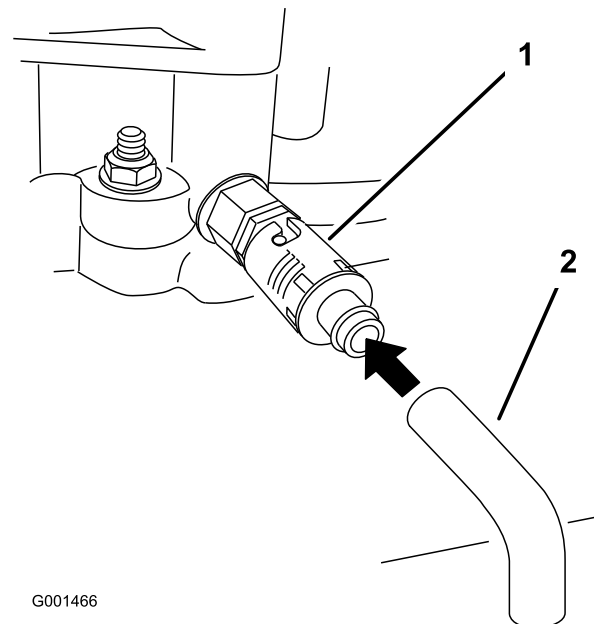

Figure 24
6. Place a pan below the drain hose. Rotate oil drain valve to allow oil to drain (Figure 24).
8. Remove the drain hose (Figure 24).